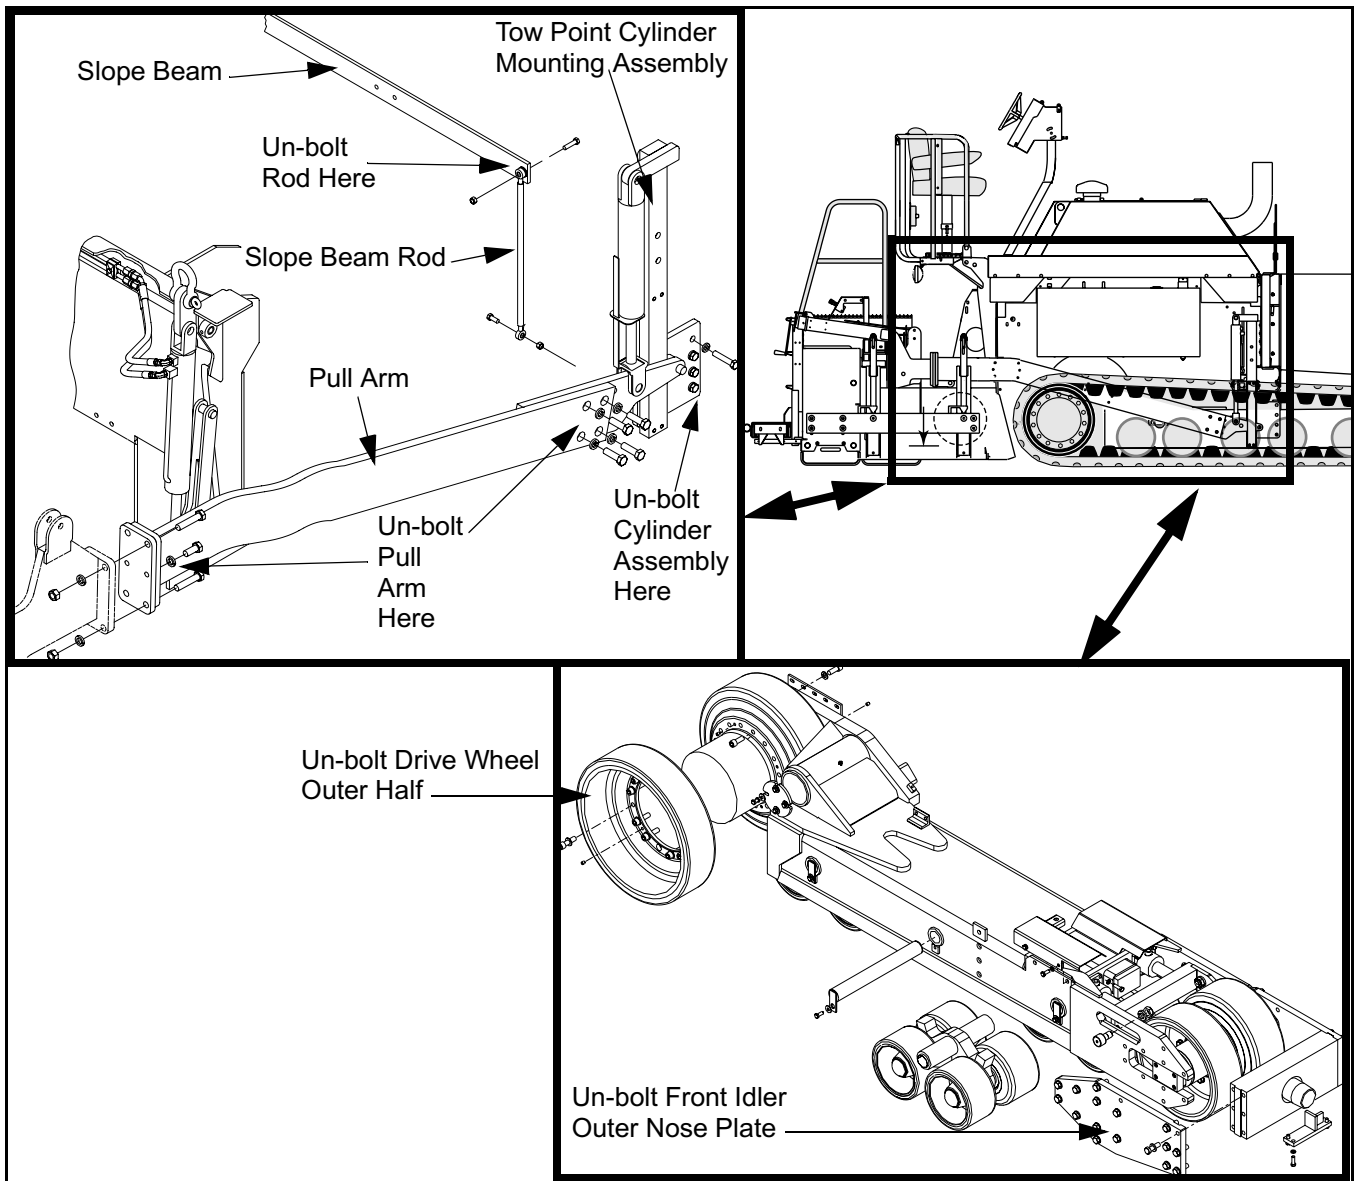

Figure 6 - 22 Rubber Track Removal
- 3) Install front idler outer nose plate (Figure 6 - 22).